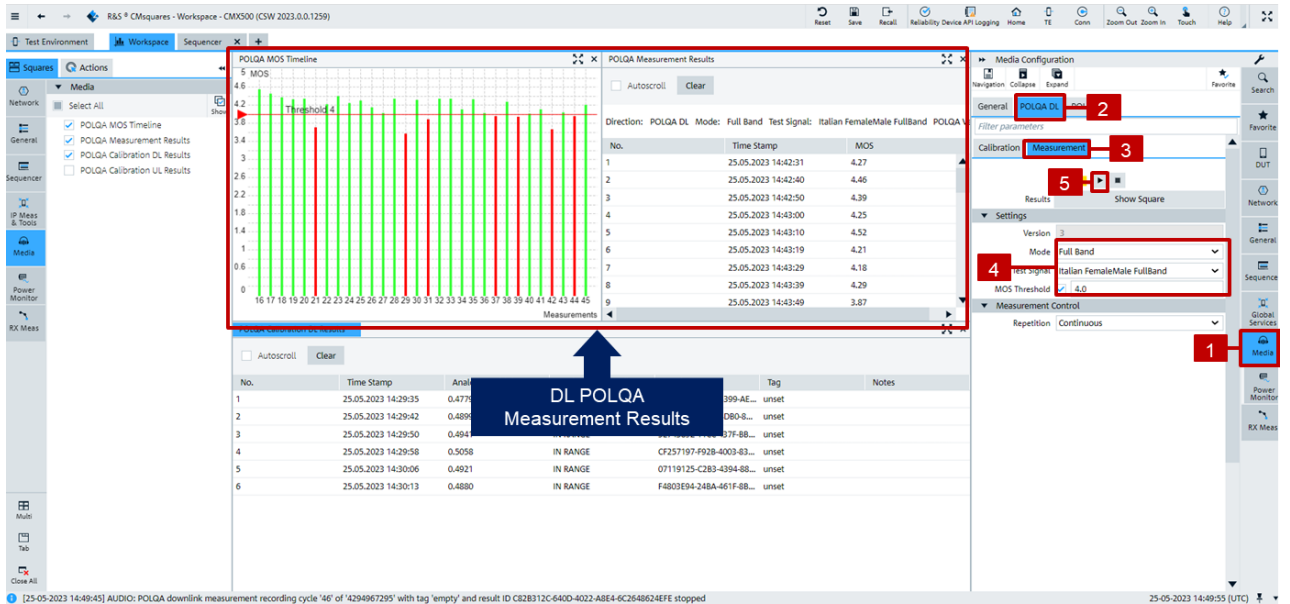

Figure 4-8 Perform POLQA DL measurement
4. Perform POLQA DL measurement with the steps shown in Figure 4-8
Measured DL MOS values are presented in both 'POLQA Measurement Results' and 'MOS Timeline' squares. The measurement example in Figure 4-8 illustrates that individual measurement runs are above or below the target MOS of 4.0.